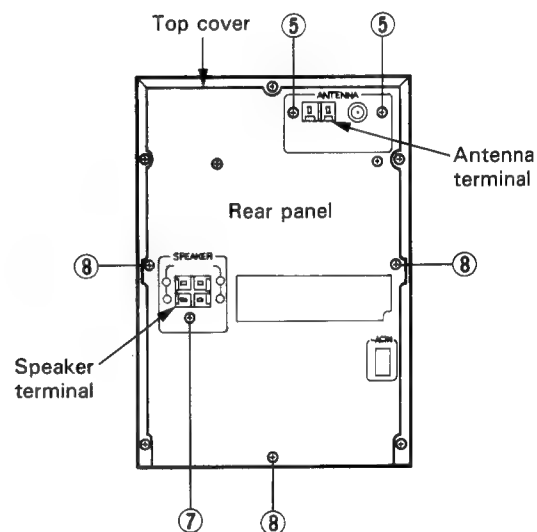

Fig. 7-8
4. From the back surface of the body, remove the two screws ⑤ retaining the antenna terminal on the tuner P.C. board (Refer to Fig. 7-8).
(Refer to Fig. 7-8)
3. From the rear panel, remove the one screw ⑦ retaining the speaker terminal (Refer to Fig. 7-8).
4. From the back surface of the body, remove the three screws ⑧ retaining the rear panel (Refer to Fig. 7-8).